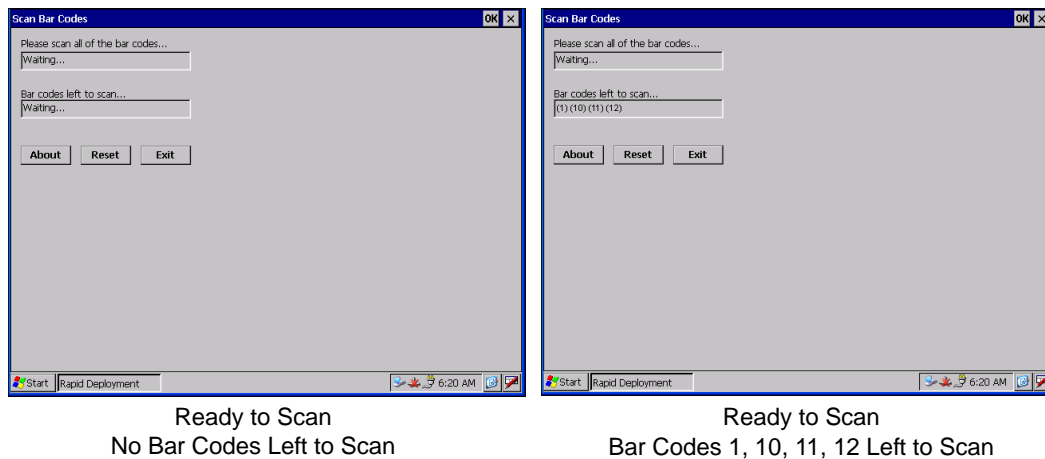

Figure C-2 *Rapid Deployment Window*
- b. Multi-part linear bar codes (1D bar codes) can require scanning several bar codes. Scan bar codes in any order. The text box under **Bar codes left to scan...** shows the remaining bar codes to scan (see Figure C-2).